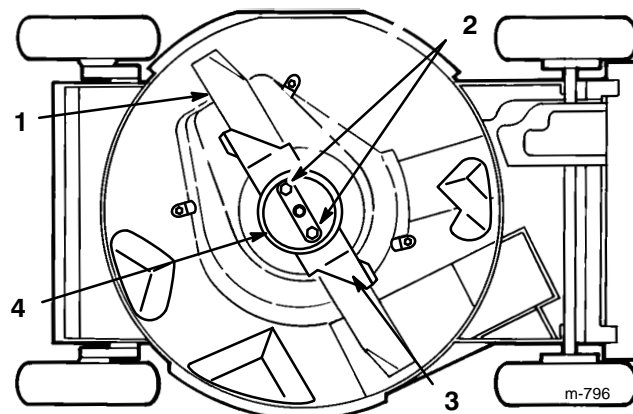

Figure 24
3. Tip mower on its right side (Fig. 24).
5. **REMOVING BLADE**—Grasp end of blade using a rag or thickly padded glove. Remove blade nuts, anti-scalp cup, accelerator, and blade (Fig. 24).